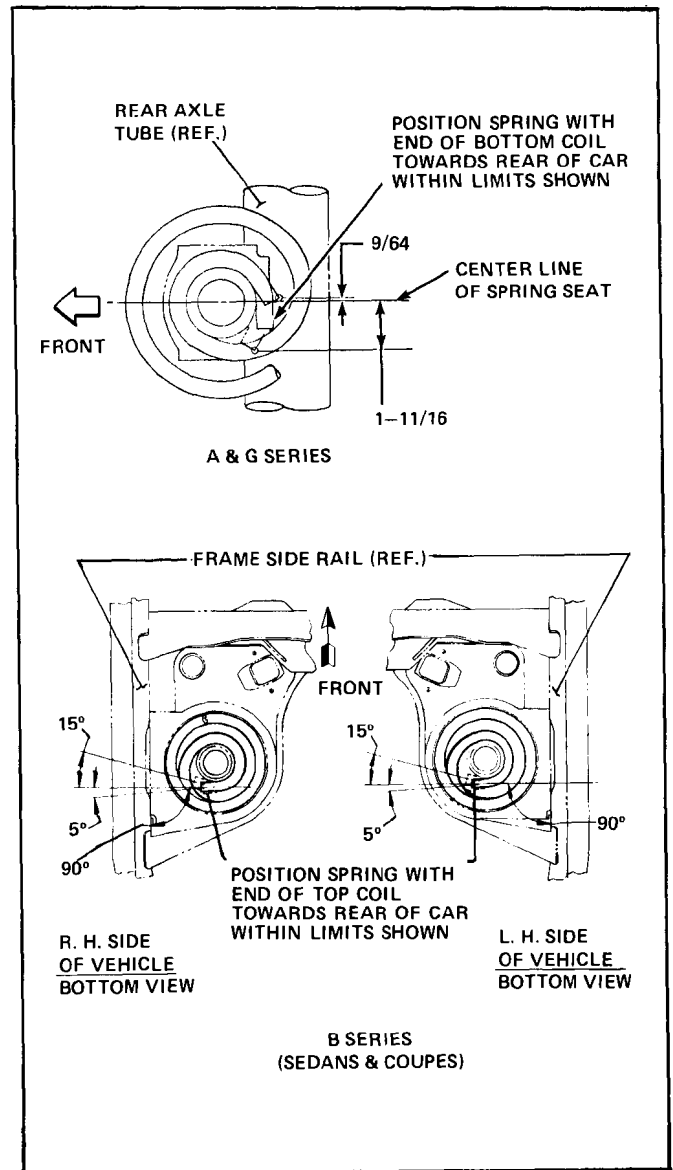

Fig. 4-22 Coil Spring Position in Spring Seat
1. Install spring, making sure that the end of the bottom coil is towards the rear of car, Fig. 4-22.